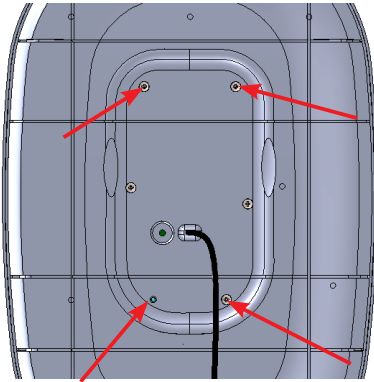
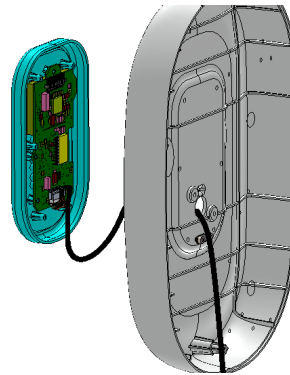

Figure 87
Figure 88
- Remove the console assembly from base unit front cover by removing 4 self tapping screws using screw driver as shown in Figure 87 and Figure 88 .
- Take the new console assembly and route the console cable through the hole of front cover as shown in Figure 88 .
- Align the gasket properly and fix the console assembly to the base unit front cover with 4 self tapping screws at the screw locations shown in Figure 87 using screw driver. Lock the cable on the cable mount using cable tie as shown in Figure 87 .